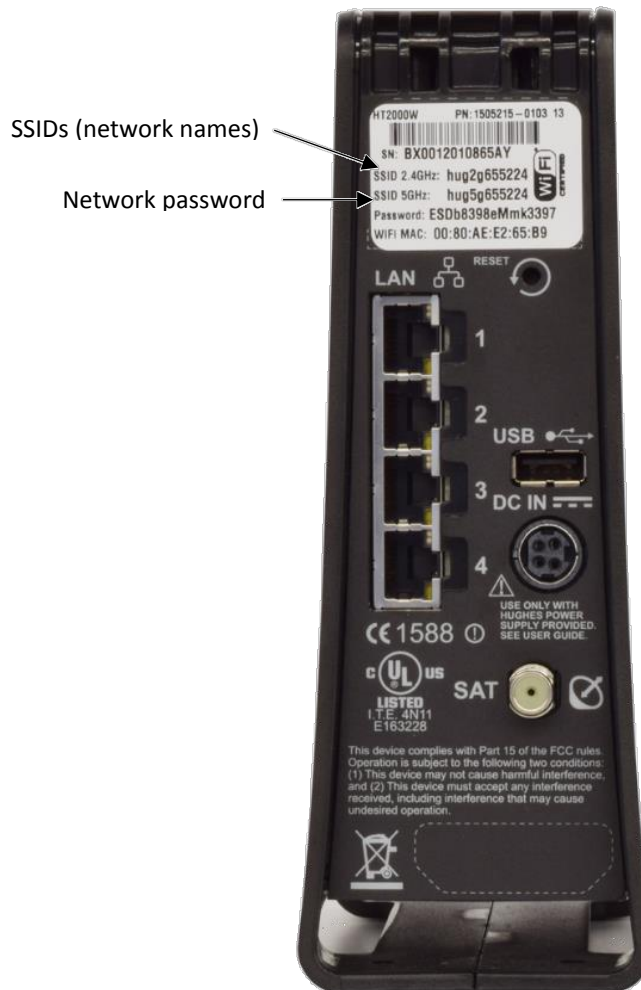

Figure 26: HT2000W back label
1. In the wireless network settings of your smart device, select the SSID of either the 2.4 GHz or 5 GHz network of the HT2000W. Both SSIDs are given on the modem's back label. See Figure 26.
2. When prompted to enter a password, enter the password given on the modem's back label. The password is the same for both SSIDs. See Figure 26.